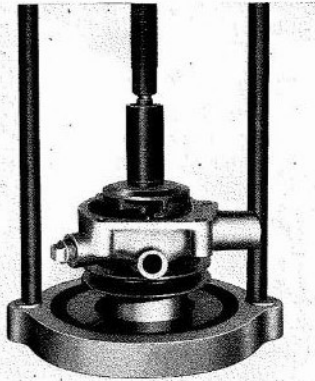
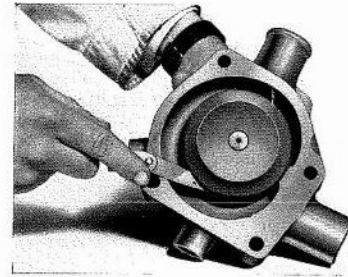

Fig. Q.8.
Fig. Q.9.
7. Press the impeller on to the shaft (See Fig. Q.8) until the clearance between the front of the impeller blades and the body is 0.015/0.025 in. (0.381/0.635 mm). This should be checked with a feeler gauge as shown in Fig. Q.9. At this point, a straight edge placed across the back face of the pump body should also contact the back face of the impeller.